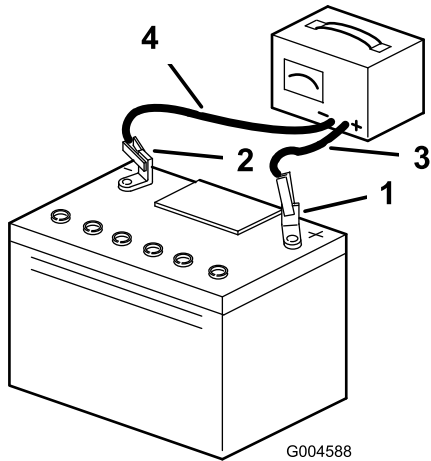

Figure 30
- Disconnect the charger leads from the battery posts (Figure 30).